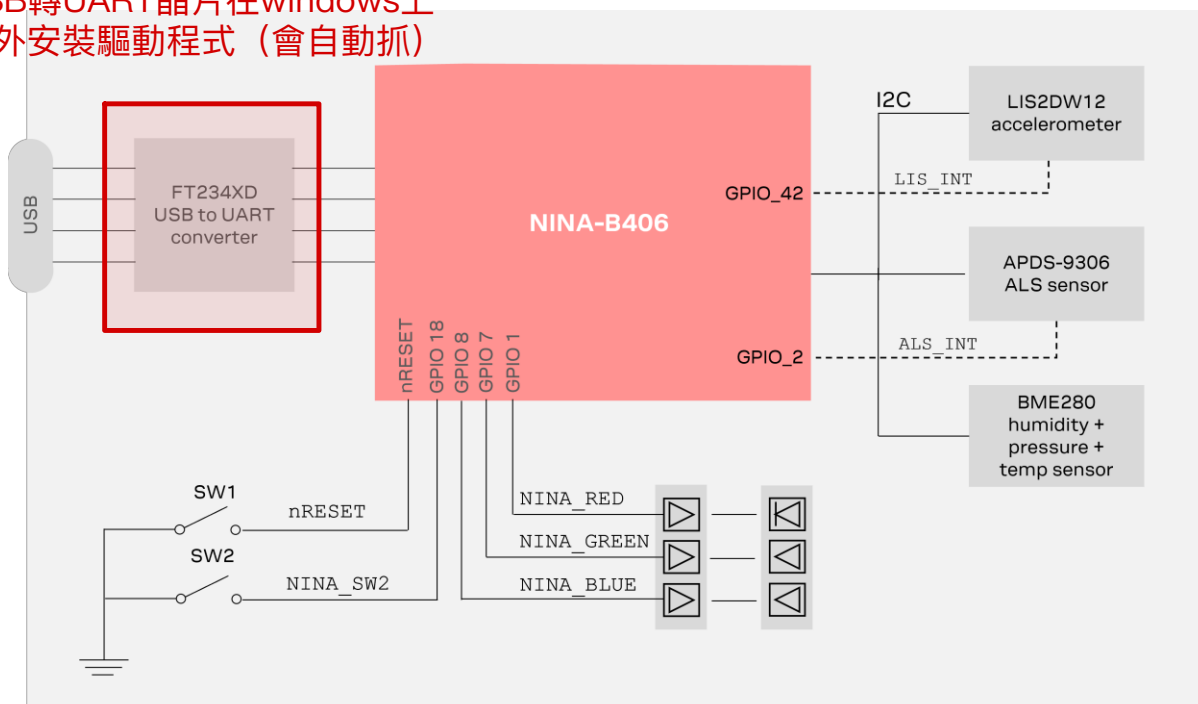

Figure 13: C209 main functional components
2. After the configuration it is necessary to remove jumpers J13 and J22, as shown in Figure 13. These jumpers select UART1/UART3 on the EVK-ODIN-W2 and direct the UART signals to the Arduino-compatible interface.
The main components of any C209 tag are shown in Figure 13.